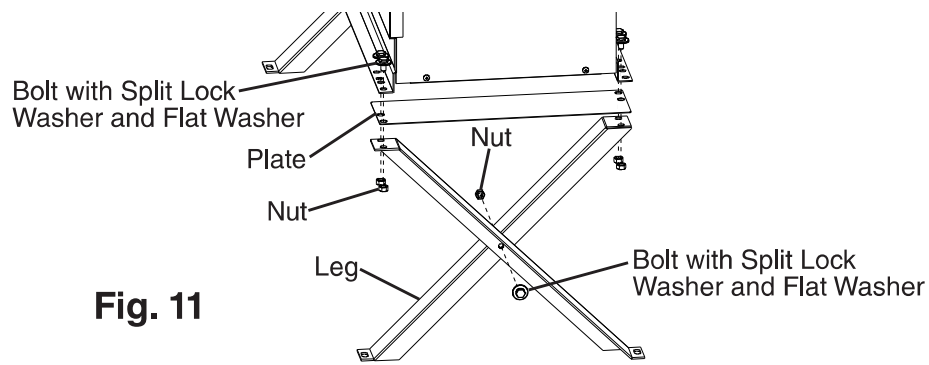

Fig. 11
- 1) Assemble two sets of legs using the legs, bolts, and nuts provided. See Fig. 11.